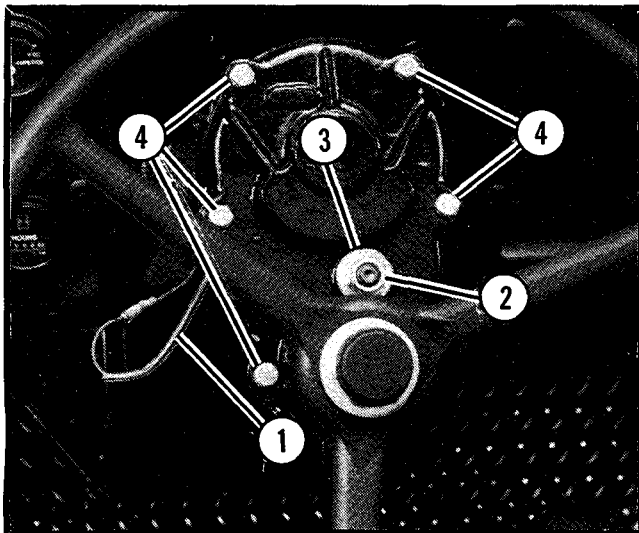

Figure 1.
2. Remove the top idler bolt nut, knurled washer and the upper steering gear housing retaining screws. The top of the housing, with steering wheel attached, may now be lifted off. See Figure 1.